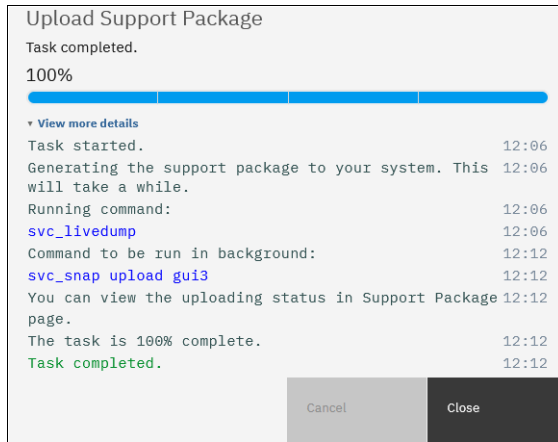

Figure 6-6 Upload Support Package details
4. In the pop-up window, enter the IBM Support case number (TSxxxxxxxx) and the type of support package to upload to the IBM Support Center. Press **Upload**. You can monitor the progress of the individual sub-tasks by clicking **View more details** as shown in Figure 6-6.